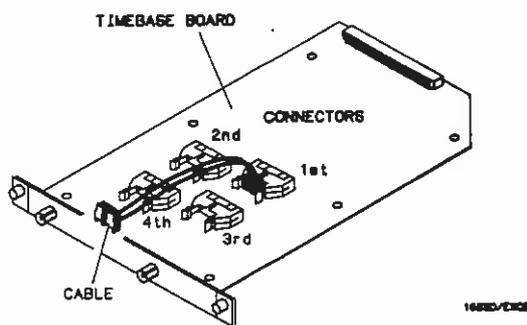

Figure A-4. Cable Position
- h. Lay cable(s) flat and pointing out to rear of card. See figure A-4.